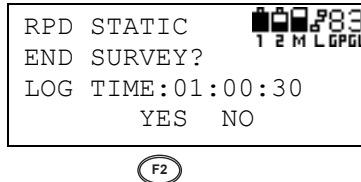

Figure 3-43. Confirm Observation Complete
13. Press **F2** (YES) to confirm (Figure 3-43).